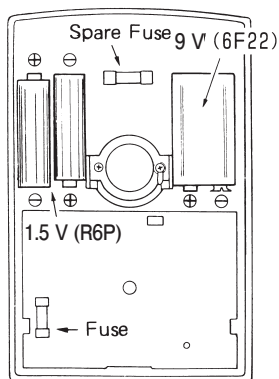

Fig. 15
2. When the fuse is blown, the tester fails to work. Replace it with the spare fuse (5 mm dia \times 20 mm, 500 mA/250 V). Refer to Fig. 15 for its position.